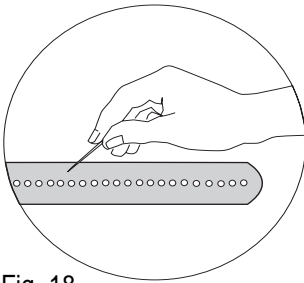
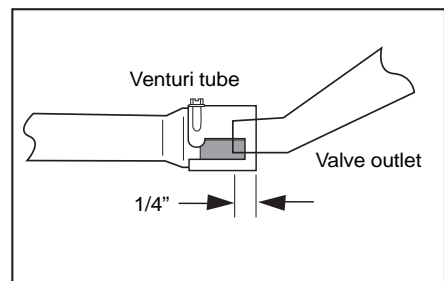

Fig. 18
Fig. 22
- Reinstall the burners properly over the valves (see Fig. 22). Use a wire brush or toothpick to clean the ports all around the sides of the burner (see Fig. 18). It is normal for some surface rust to appear on the burner. Severe rusting can enlarge the gas ports, however, which could cause changes in the Grill's performance.
- Use a wire brush to clean all ports on the sides of the burner (see Fig. 18).
If burners are removed for cleaning or adjustment, always confirm that they have been reinstalled correctly over the valve outlets (see Fig. 22). The valves should extend into the burner venturis approximately  $\frac{1}{4}$ ".